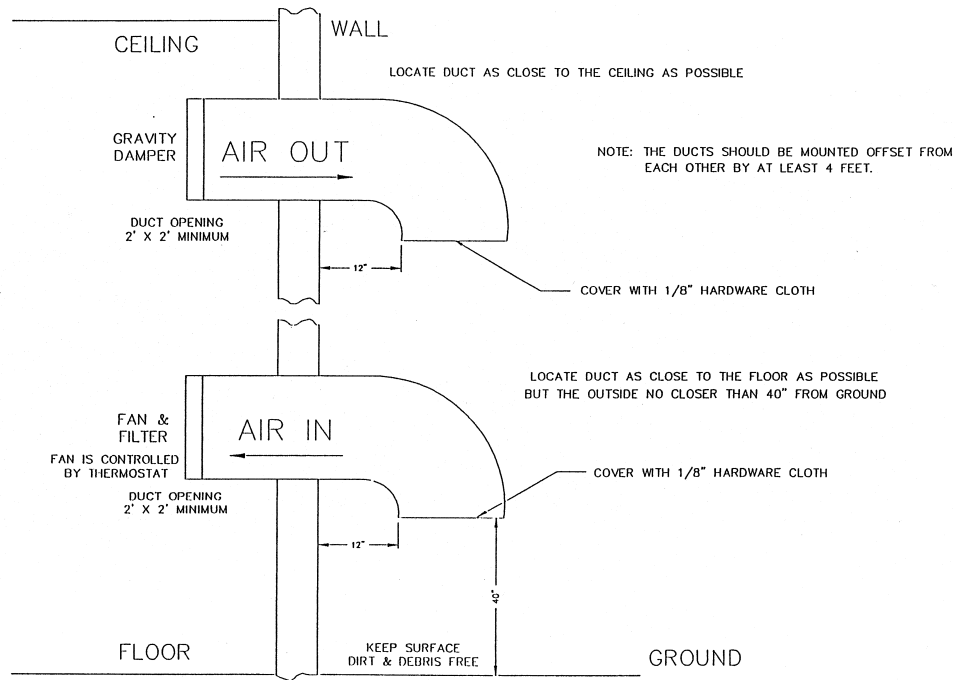

Figure 3-1. 1 kW Minimum Ventilation Configuration
- The information presented in this section is intended to serve only as a general guide and may need to be modified for unusually severe conditions. A combination of air conditioning and ventilation should not be difficult to design (see Figure 3-1).